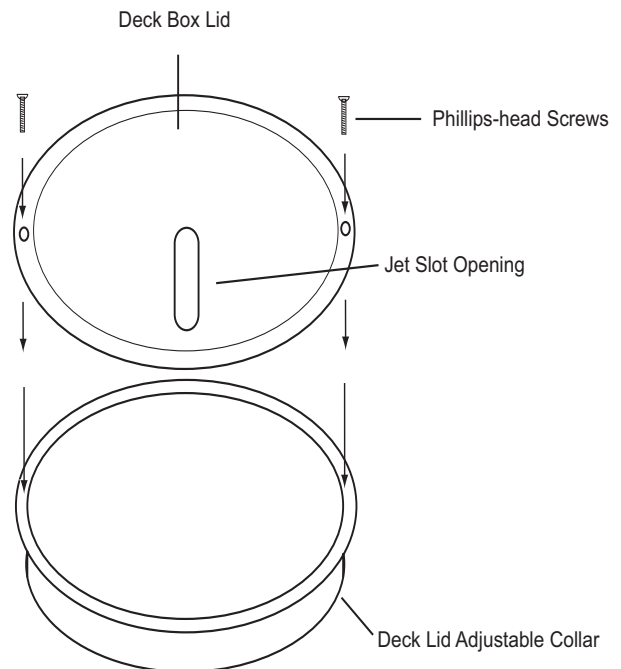

Figure 6. Deck Box Lid with Collar
**NOTE:** To adjust the angle of the jet, lift the Deck Box lid and move the Laminar Jet up or down to increase or decrease the angle. The angle can be adjusted approximately 15 degrees. The Laminar Jet is installed on two pivots. Loosen the union nuts on the pivots and adjust the jet angle. Once you are satisfied with the angle and location of the jet, tighten the union nuts. Secure the Deck Box lid to the Deck box collar, using two #10 by 1½", Phillips, flat head stainless steel screws (see Figure 6). It is recommended to drill 1/8" pilot holes in the lid. Then the screws can be threaded into the holes. This will complete the installation and secure the jet from movement.